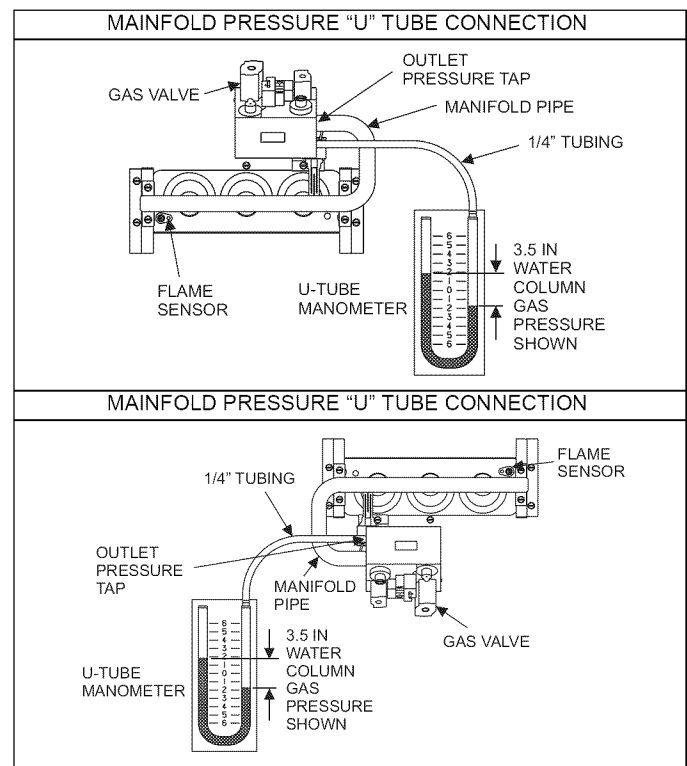

FIGURE 37: Reading Gas Pressure
4. Use the 4" (10.2 cm) piece of 1/8" (0.3 cm) tubing to connect the positive side of the manometer to the gas valve pressure reference port. Refer to Figure 37 for connection details.